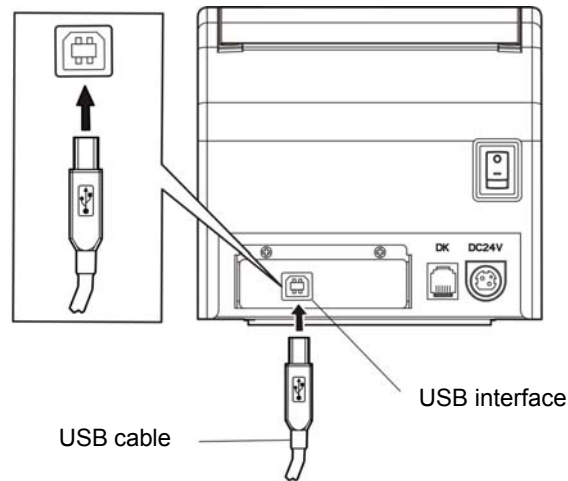

Figure 2-4 Connecting the USB cable
2. Plug the USB cable B end (square shape) into the printer's USB interface. (As shown in figure 2-4)